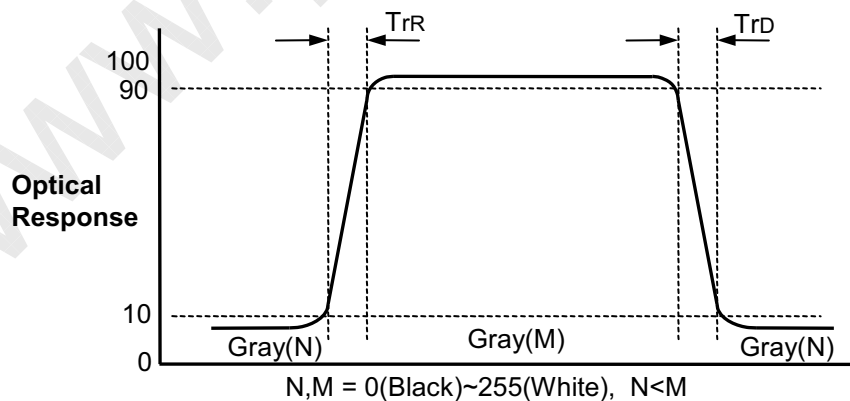

FIG. 3 Response Time
4. Response time is the time required for the display to transit from G(N) to G(M) (Rise Time,  $Tr_R$ ) and from G(M) to G(N) (Decay Time,  $Tr_D$ ). For additional information see the FIG. 3. ( $N < M$ )